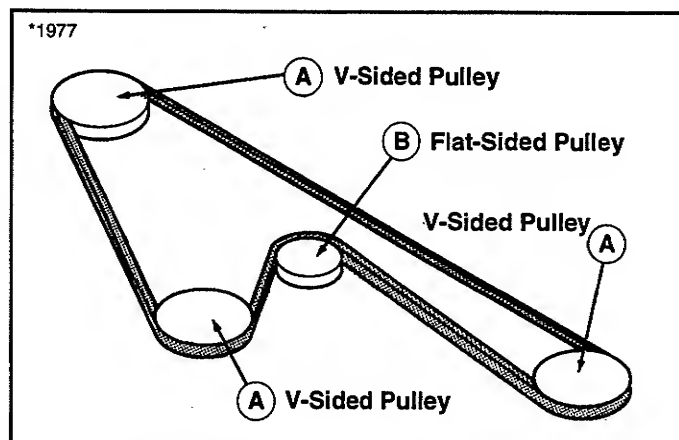

**Figure 38. Mower Deck**
4. Loosen nut and lockwasher securing bracket belt stop (C, figure 38) on idler pulley. Remove three cap-screws securing left-hand arbor cover (D, figure 38).
8. Install spring (C, figure 38) to slot in mower deck. Tighten capscrew securing idler pulley.